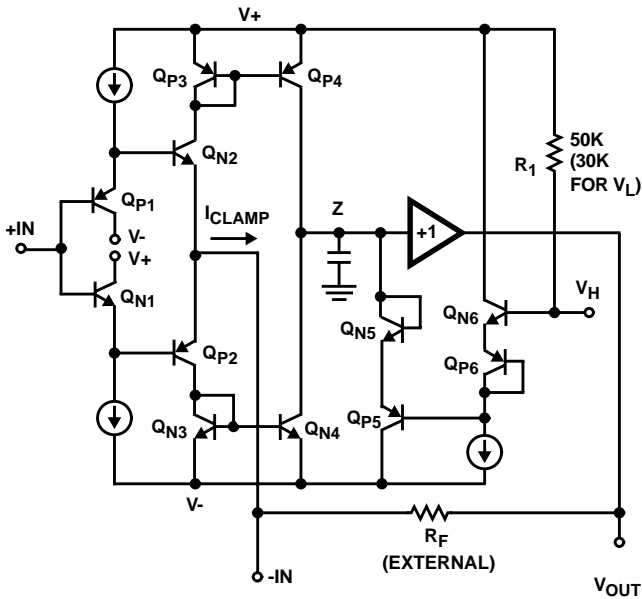

FIGURE 1. HFA1130 SIMPLIFIED V_H CLAMP CIRCUITRY
Figure 1 shows a simplified schematic of the HFA1130 input stage, and the high clamp (V_H) circuitry. As with all current feedback amplifiers, there is a unity gain buffer ($Q_{X1} - Q_{X2}$) between the positive and negative inputs. This buffer forces $-IN$ to track $+IN$, and sets up a slewing current equal to the current flowing through the inverting input. This current is mirrored onto the high impedance node (Z) by $Q_{X3} - Q_{X4}$, where it is converted to a voltage and fed to the output via another unity gain buffer. If no clamping is utilized, the high impedance node may swing within the limits defined by Q_{P4} and Q_{N4} . Note that when the output reaches its quiescent value, the current flowing through $-IN$ is reduced to only that small current ($-I_{BIAS}$) required to keep the output at the final voltage.
The clamped output voltage will not be exactly equal to the voltage applied to V_H or V_L . Offset errors, mostly due to V_{BE} mismatches, cause inaccuracies in the clamping level. Clamp accuracy is a function of the clamping conditions. Referring again to Figure 1, it can be seen that one component of clamp accuracy is the V_{BE} mismatch between the Q_{X6} transistors, and the Q_{X5} transistors. If the transistors are run at the same current level there is no V_{BE} mismatch, and no contribution to the inaccuracy. The Q_{X6} transistors are biased at a constant current, but as described earlier, the current through Q_{X5} is equivalent to I_{CLAMP} . V_{BE} increases as I_{CLAMP} increases, causing the clamped output voltage to increase as well. I_{CLAMP} is a function of the overdrive level and R_F , so clamp accuracy degrades as the overdrive increases, and as R_F decreases. Consideration must also be given to the fact that the clamp voltages have an effect on amplifier linearity. As the output voltage approaches the clamp level the clamp circuitry starts to conduct and linearity degrades. Most limiting